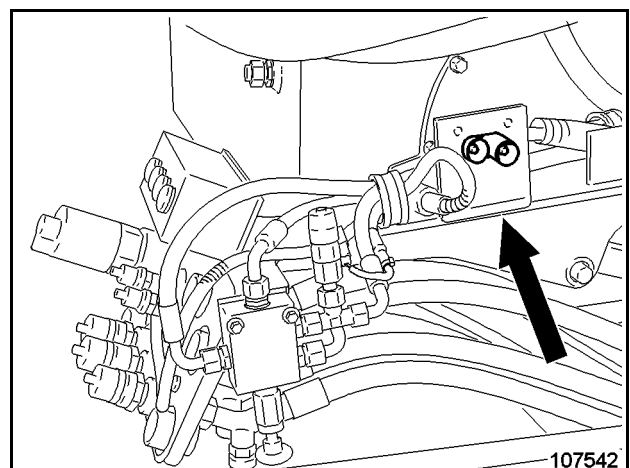

Fig. 3-52:
For this purpose, the arm of the service station (Fig. 3-52:) is equipped with a socket outlet for a charging cable.
**Do not use the socket outlet (Fig. 3-52:) for jump-starting of the engines.**
- Connect the charging cable to the socket outlet (Fig. 3-52:).